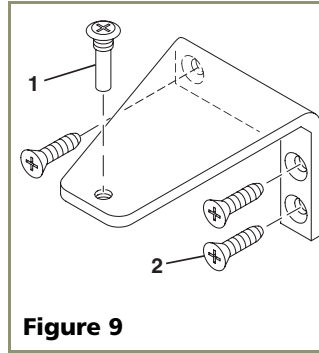

Figure 9
3. Remove top hinge (3 screws), reinstall hinge screw pin, and remount on opposite side **BOTTOM** (see **Figure 9**).